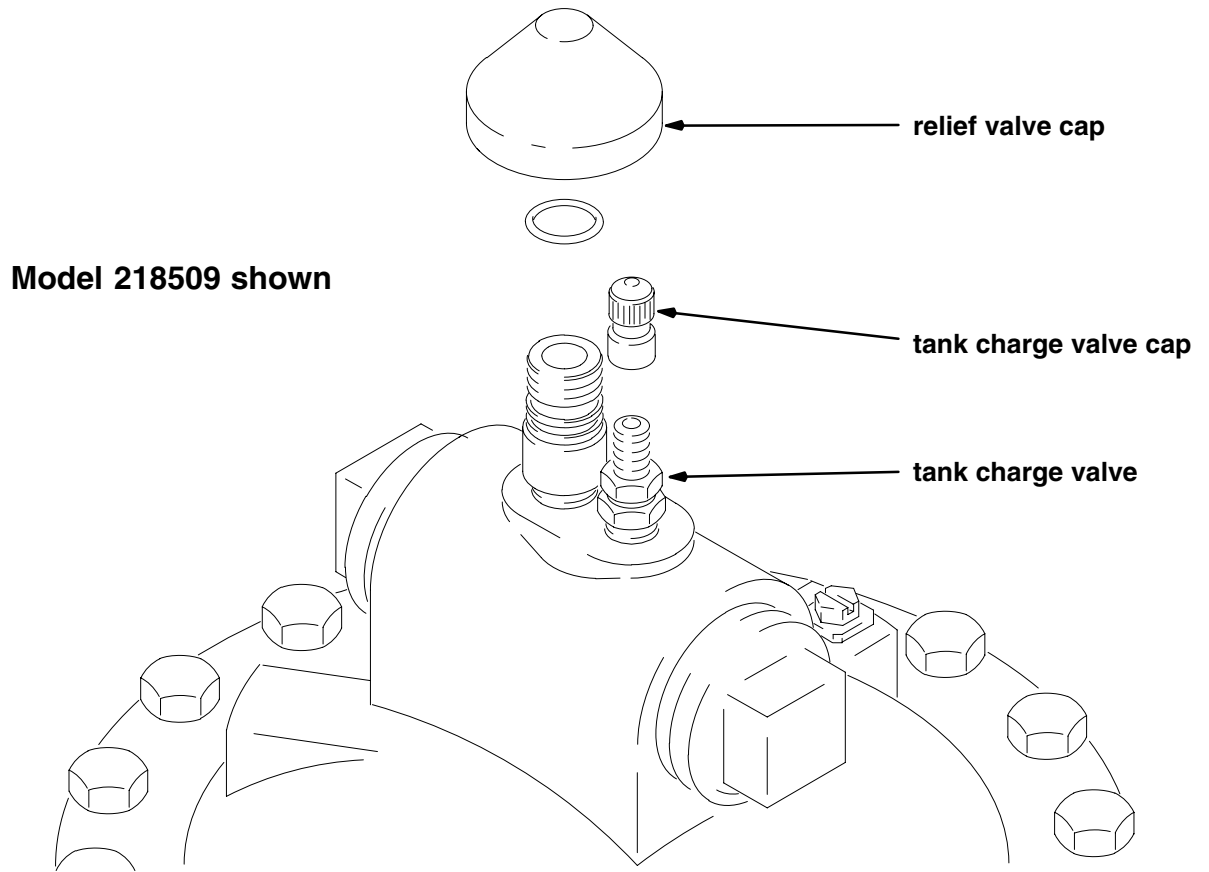

Fig. 5
2. Remove the relief valve cap and the tank charge valve cap from the tank charge valve. See Fig. 5.